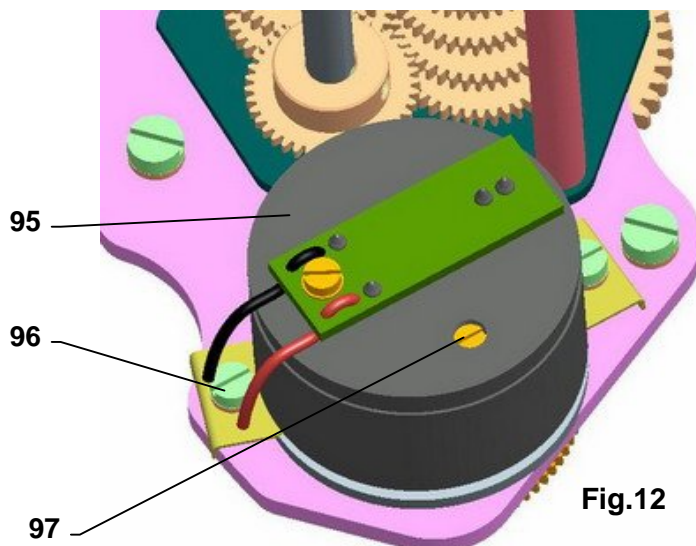

Fig.12
#### 4.7 Adjustment of Capacitive Transmitter CPT1/A (Fig.12)
*The trimmer (97)(Fig.12) can be used to adjust the output signal of the capacitive transmitter to any value of operating revolutions in range from ca 50% up to 100% of the max. value of the operating revolutions on the competent degree according to table Nr.3.*